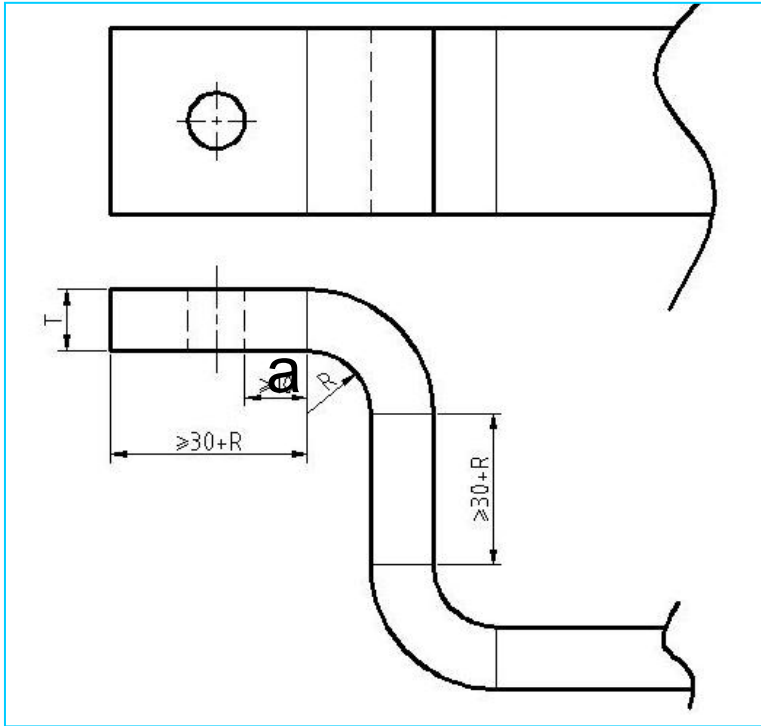

Fig.1
(1) The *a* size of the figure 1. is according to the different bending die, different manufacturers use different concave and convex die, to form different bending *R*, which affect security dimension *a* value.